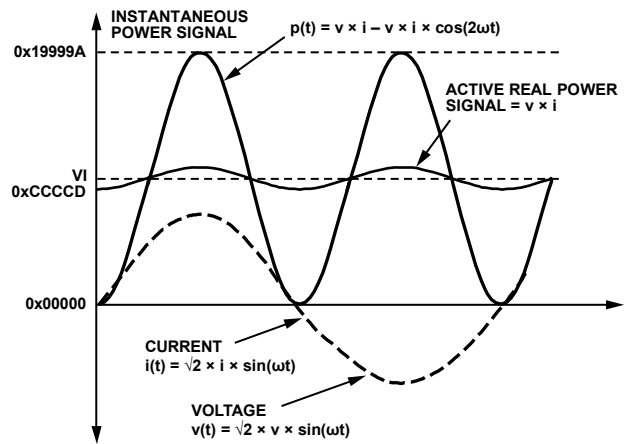

Figure 42. Active Power Calculation
Note that the active power is equal to the dc component of the instantaneous power signal $p(t)$ in Equation 9, that is, VI . This is the relationship used to calculate active power in the ADE5166/ADE5169/ADE5566/ADE5569. The instantaneous power signal $p(t)$ is generated by multiplying the current and voltage signals. The dc component of the instantaneous power signal is then extracted by LPF2 (low-pass filter) to obtain the active power information. This process is illustrated in Figure 42.
The ADE5166/ADE5169/ADE5566/ADE5569 also incorporate an active power offset register (WATTOS[15:0]). It is a signed, twos complement, 16-bit register that can be used to remove offsets in the active power calculation (see Figure 42). An offset can exist in the power calculation due to crosstalk between channels on the PCB or in the IC itself. The offset calibration allows the contents of the active power register to be maintained at 0 when no power is being consumed.
As mentioned in the Active Energy Calculation section, the discrete time sample period (T) for the accumulation register is 1.22 μs (5/MLCK). With full-scale sinusoidal signals on the analog inputs and the WGAIN register set to 0x000, the average word value from each LPF2 is 0xCCCCD (see Figure 42). The maximum positive value that can be stored in the internal 49-bit register is 2⁴⁸ (or 0xFFFF,FFFF,FFFF) before it overflows. The integration time under these conditions when WDIV = 0 is calculated in the following equation: